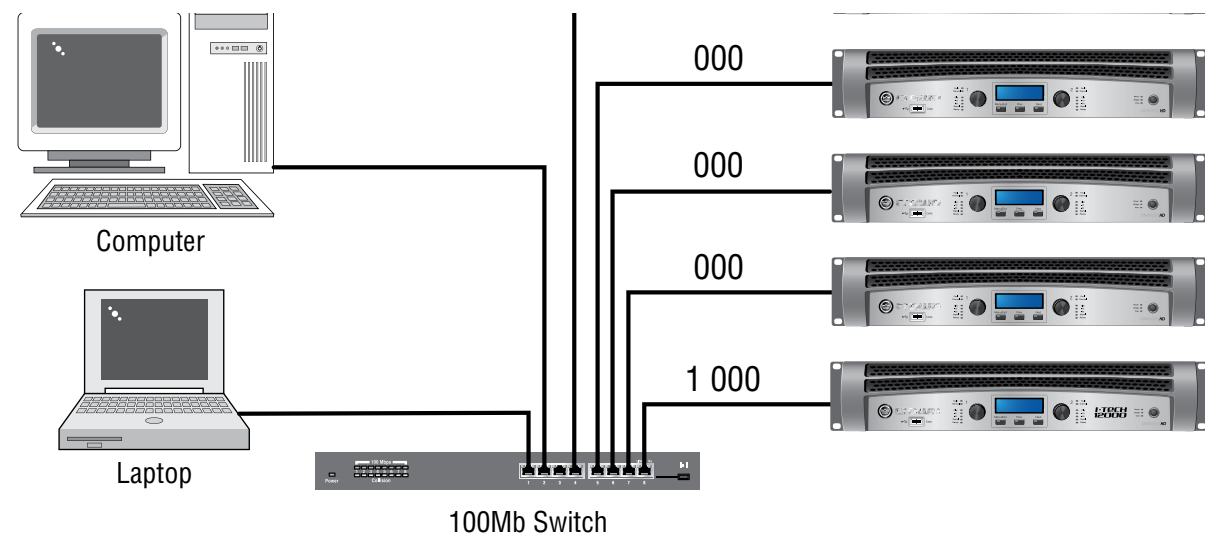

Figure 12.1 A HiQnet Network
You need a way to send computer commands to several audio devices at once. This is done with an **Ethernet switch**, which is something like an audio Y cable or distribution amp. The computer, and all the audio devices, connect to the switch as in Figure 12.1.
**HiQnet** protocol lets you control and monitor certain Harman products (including Crown) on an Ethernet network. Figure 12.1 shows a typical HiQnet network.